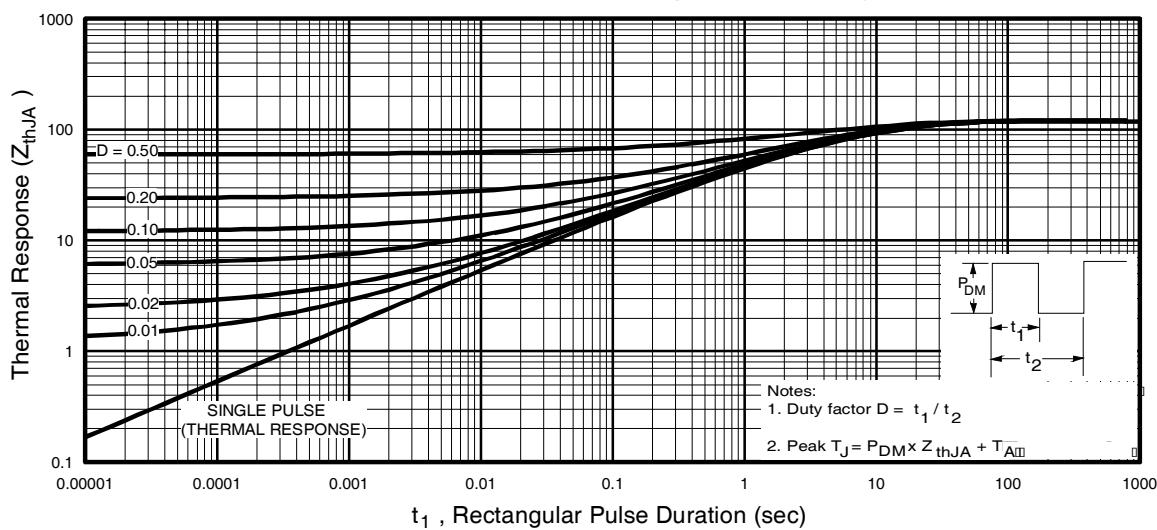

Fig 11. Maximum Effective Transient Thermal Impedance, Junction-to-Ambient
① Repetitive rating; pulse width limited by max. junction temperature. (See fig. 11)